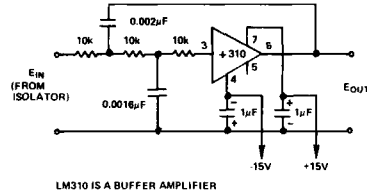

Figure 13. 2-Pole, 5kHz Active Filter
- G = 1V/V; with 2-pole, 5kHz output filter (see Figure 13).
Noise Reduction in Data Acquisition Systems: Transformer coupled isolators must have a carrier to pass dc signals through their signal transformers. Inevitably some carrier frequency ripple passes through to the isolator output. As the bandwidth of an isolator becomes a larger fraction of its carrier frequency, this ripple becomes more difficult to control. Despite this difficulty, the model 289 produces very low ripple; therefore, additional filtration will usually be unnecessary. However, in some applications, particularly where a fast analog-to-digital converter is used following the isolator, it may be desirable to add filtration; otherwise, ripple may cause inaccurate conversions. The 2-pole low-pass shown in Figure 13 limits isolator bandwidth to 5kHz, which is the full power bandwidth of the model 289. Carrier ripple is much reduced. Another beneficial effect of an output filter is smoothing of discontinuous high frequency waveforms.